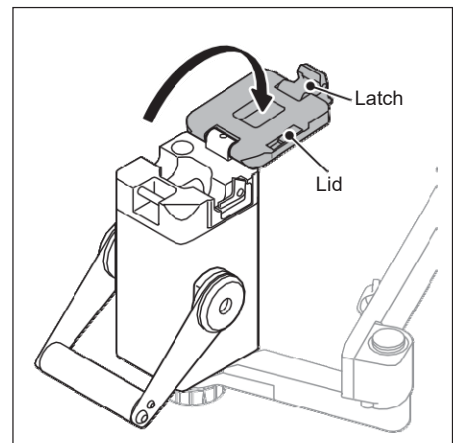

Figure 1-53
2. Release the latch of the Fast Clamp lid, and open the lid. (Figure 1-53)